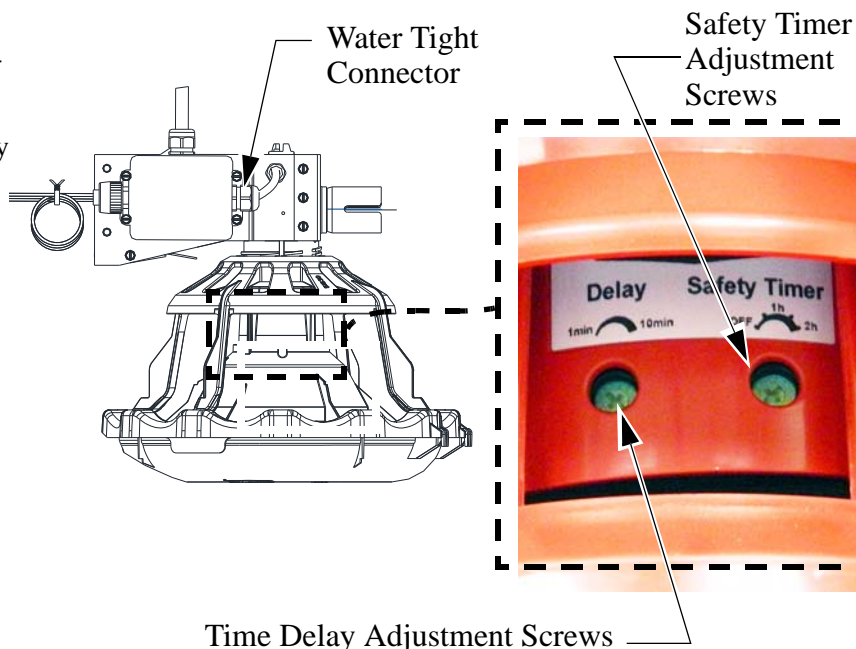

Figure 67. Adjusting the Electronic Sensor
The Electron Sensor's sensitivity is preset at the factory. The time delay adjustment is 1 minute to 10 minutes. *The factory setting is 1 minute.* The Sensor also comes with a Safety Timer that can be set to: Off, 1 hour, or 2 hours. *The factory setting is 2 hours.* To get access to the Adjustment Screws **See Figure 67**. below.
2. Pull the Sensor Down to expose the Safety Timer and Time Delay Adjustment Screws **Figure 67**.